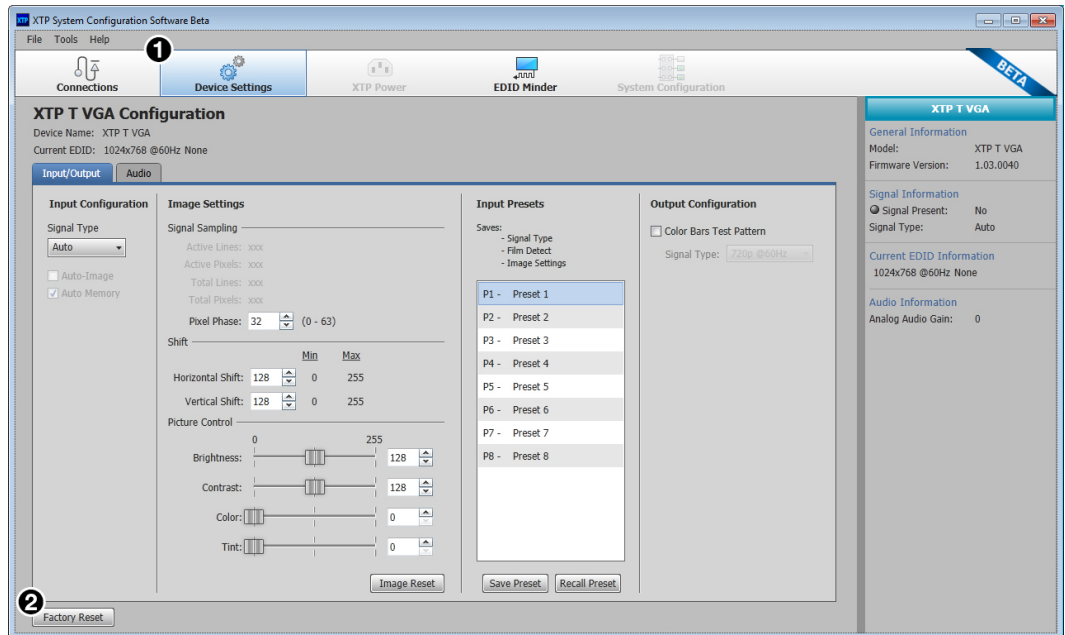

Figure 19. Transmitter Device Settings Screen
The Device Settings screen allows a user to view and edit various device settings for the device directly connected to the host device. Click the **Device Settings** icon (see figure 19, ❶) on the Global Navigation bar to open the Device Settings screen.
Click the **Factory Reset** button (see figure 19, ② on page 21) to reset the transmitter to factory settings except for firmware.